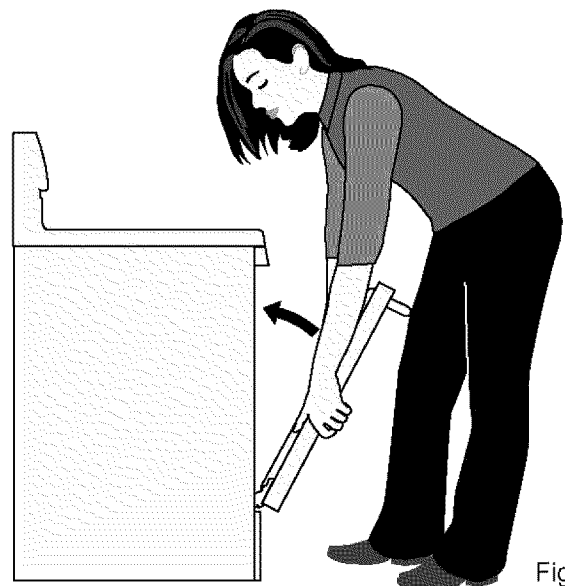

Fig. 3
5. Carefully lift door away evenly, slightly up and out until both hinge arms are clear of the hinge slots in the oven frame -*Fig. 3*-. After door has been removed, be sure to lay the door flat with the inside of the door downward (never rest the oven door with any weight on the door handle).